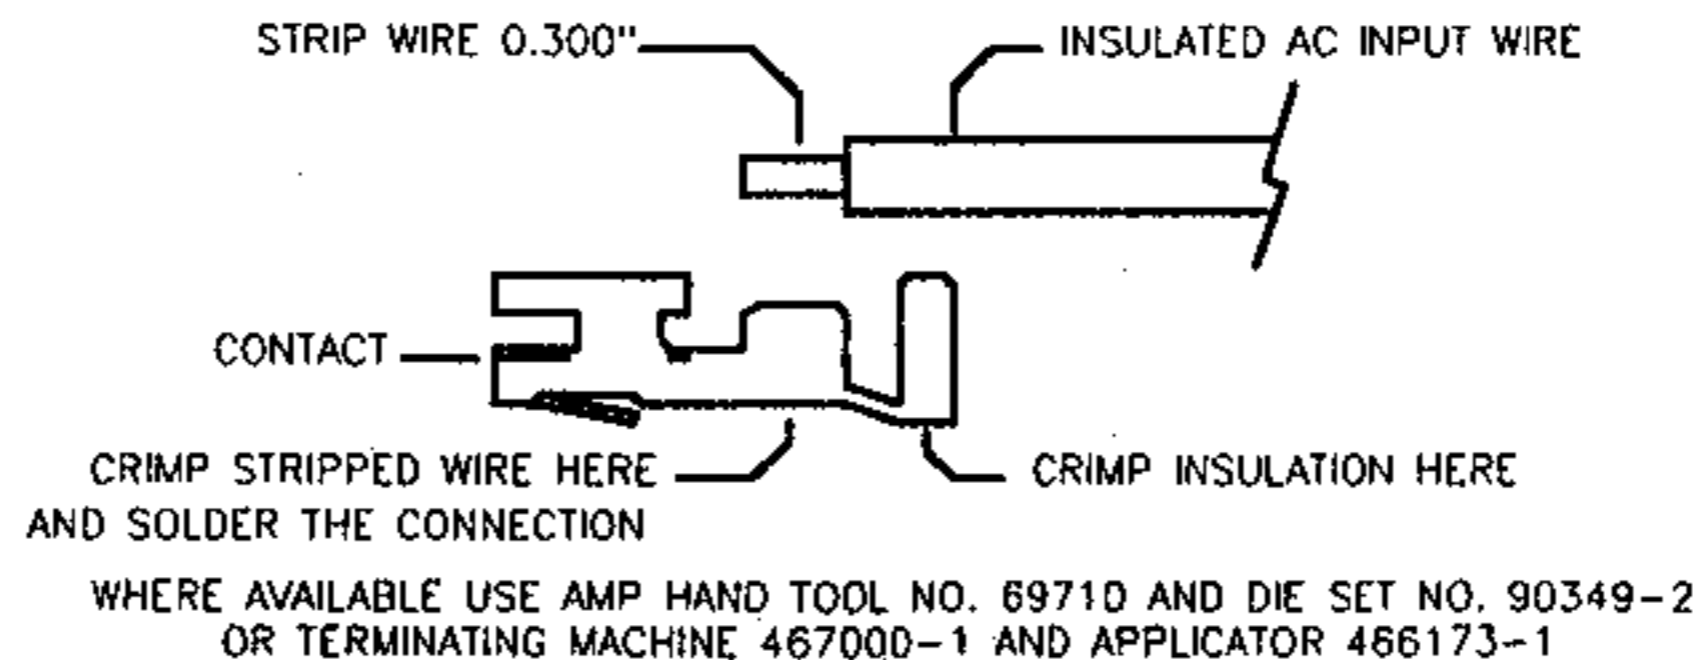

Figure 2.3-2 Wire Preparation
3. Crimp the stripped wire into the contact as indicated in **Figure 2.3-2**, then solder the connection.
4. Crimp the contact around the wire insulation as indicated in **Figure 2.3-2**.